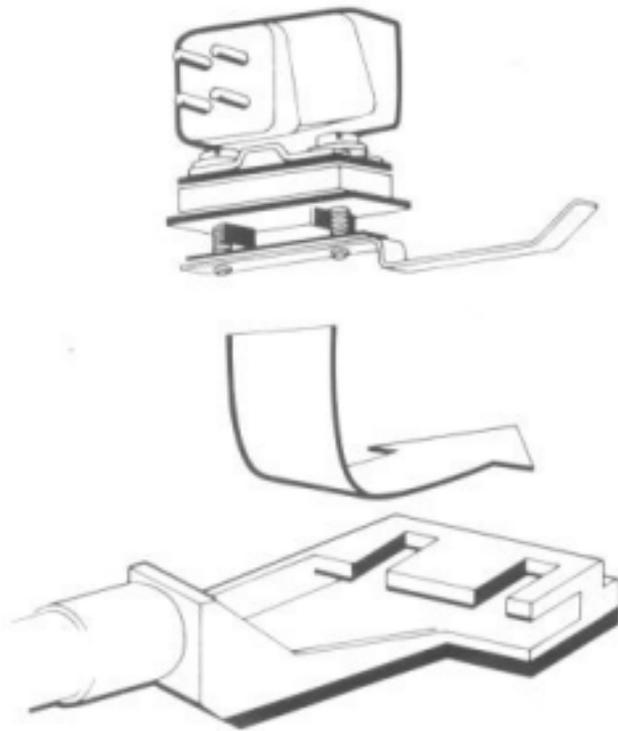

Figure 20
5. Slide the mounted pickup cartridge onto the cartridge wand (Figure 20).